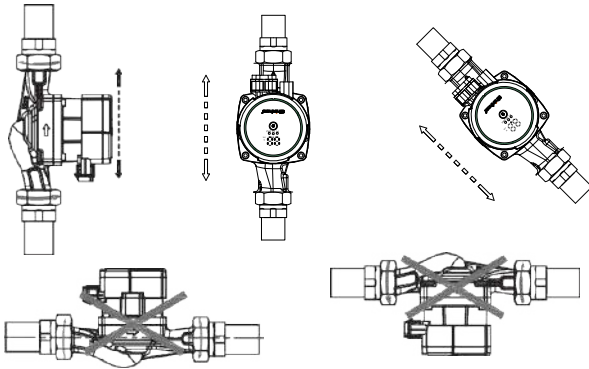

Fig. 5 Pump location
1. The pump must always be mounted so that the motor shaft is horizontal to the ground (see Fig 5).
- Examples of correct pump installation are shown in Fig 5.